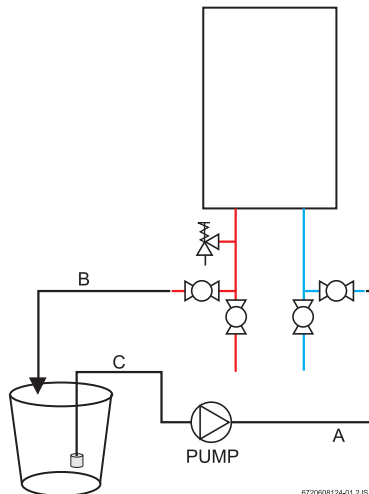

Fig. 65
5. Connect a line (A) from the outlet of the circulating pump (installer supplied) to the inlet water fitting on the water heater (see Fig. 65.)
6. Using another line (B), connect to the water outlet fitting on the water heater. Route the other end of this line into a descaling reservoir.
7. Using a 3rd line (C) from the descaling reservoir, connect to the inlet side of circulating pump. Install a filter on the end of the line in the descaling reservoir.